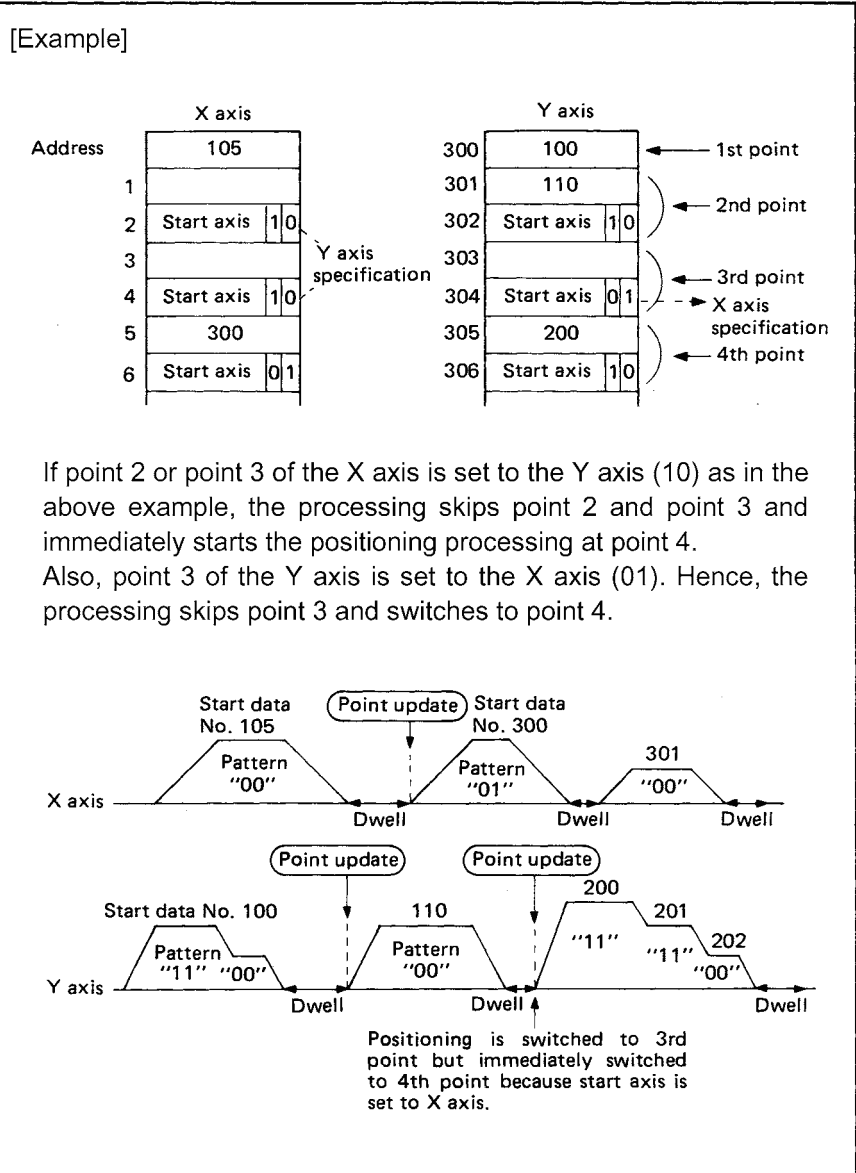

Fig. 3.27 Start Data Example 2
- 2) If the start axis setting in the X axis start data No. area is a Y-axis start (10), that point data is ignored (positioning is not executed) and the processing proceeds to the next point. (Refer to Fig. 3.27.)